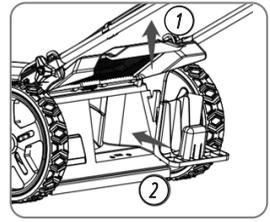

Fig. 6
MULCHING PLUG INSTALLATION (Fig. 6)**(When engine is off)**
1. Remove the grass bag (Fig. 6).